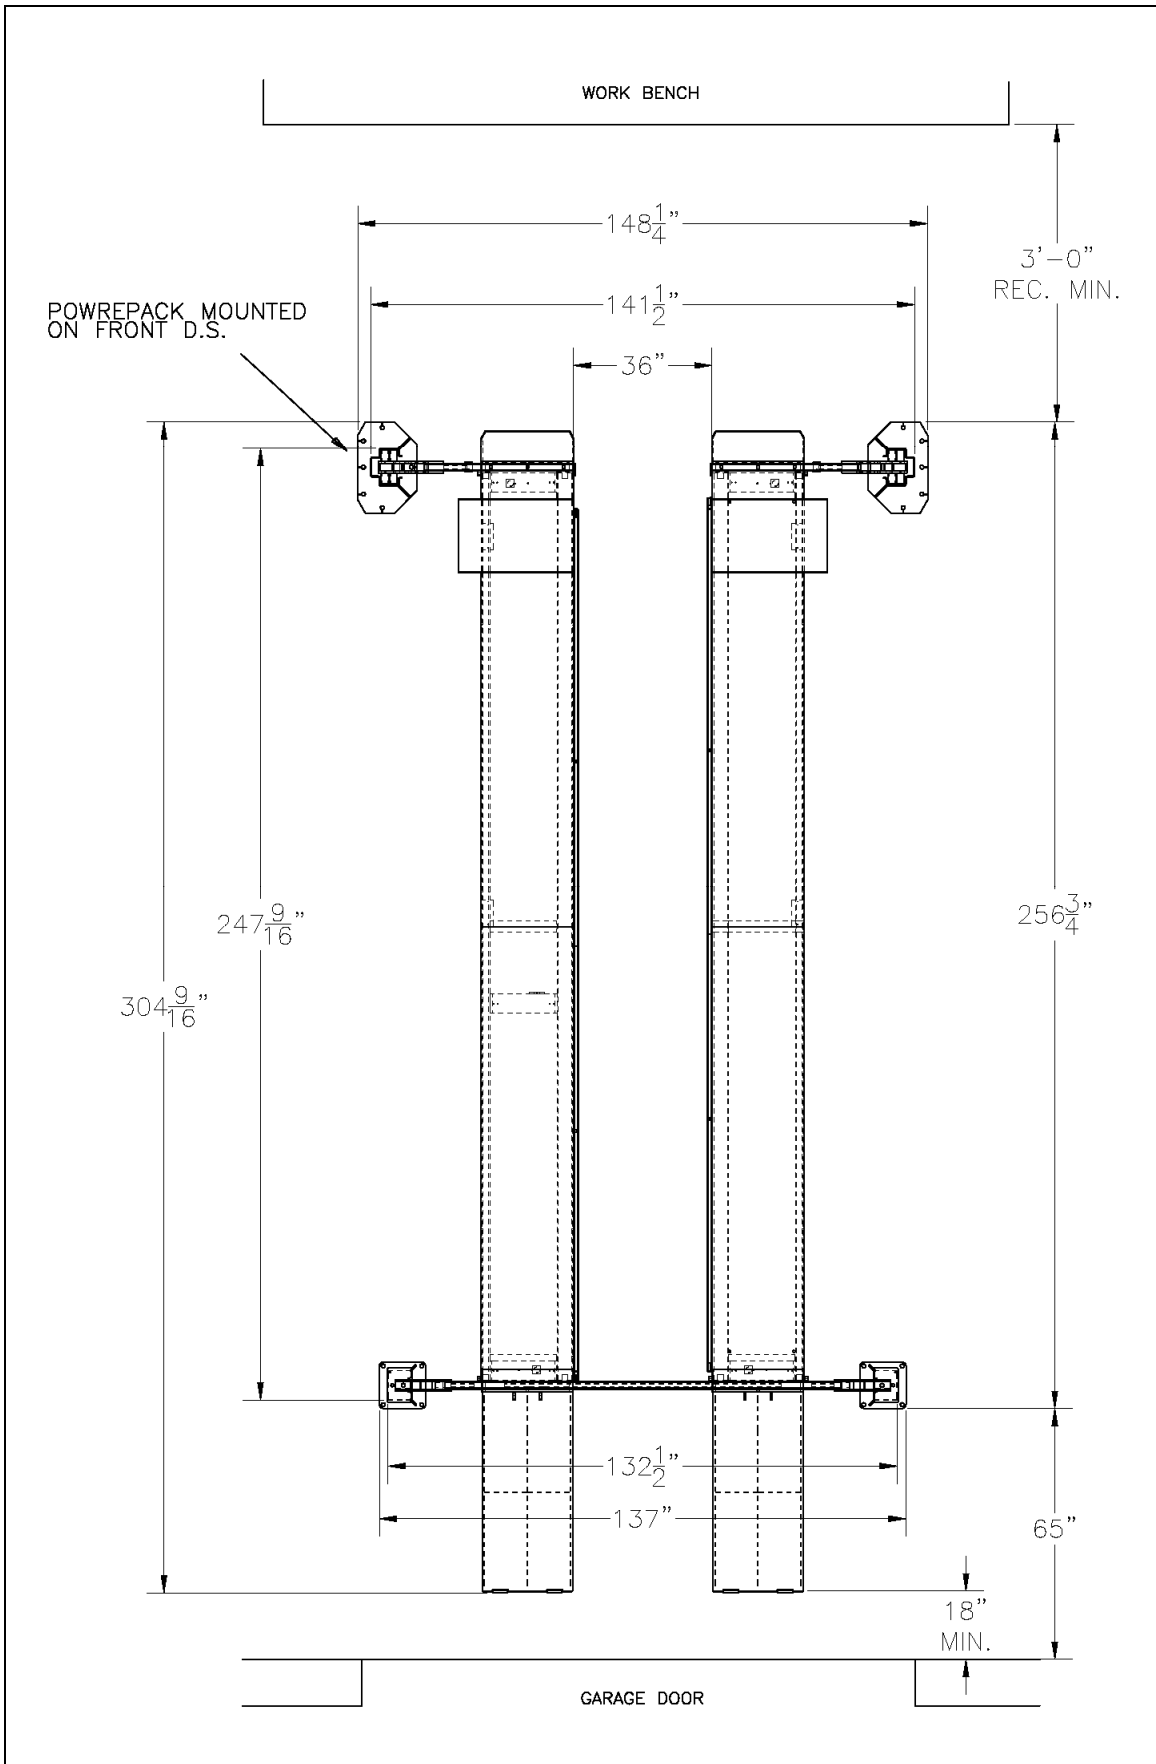
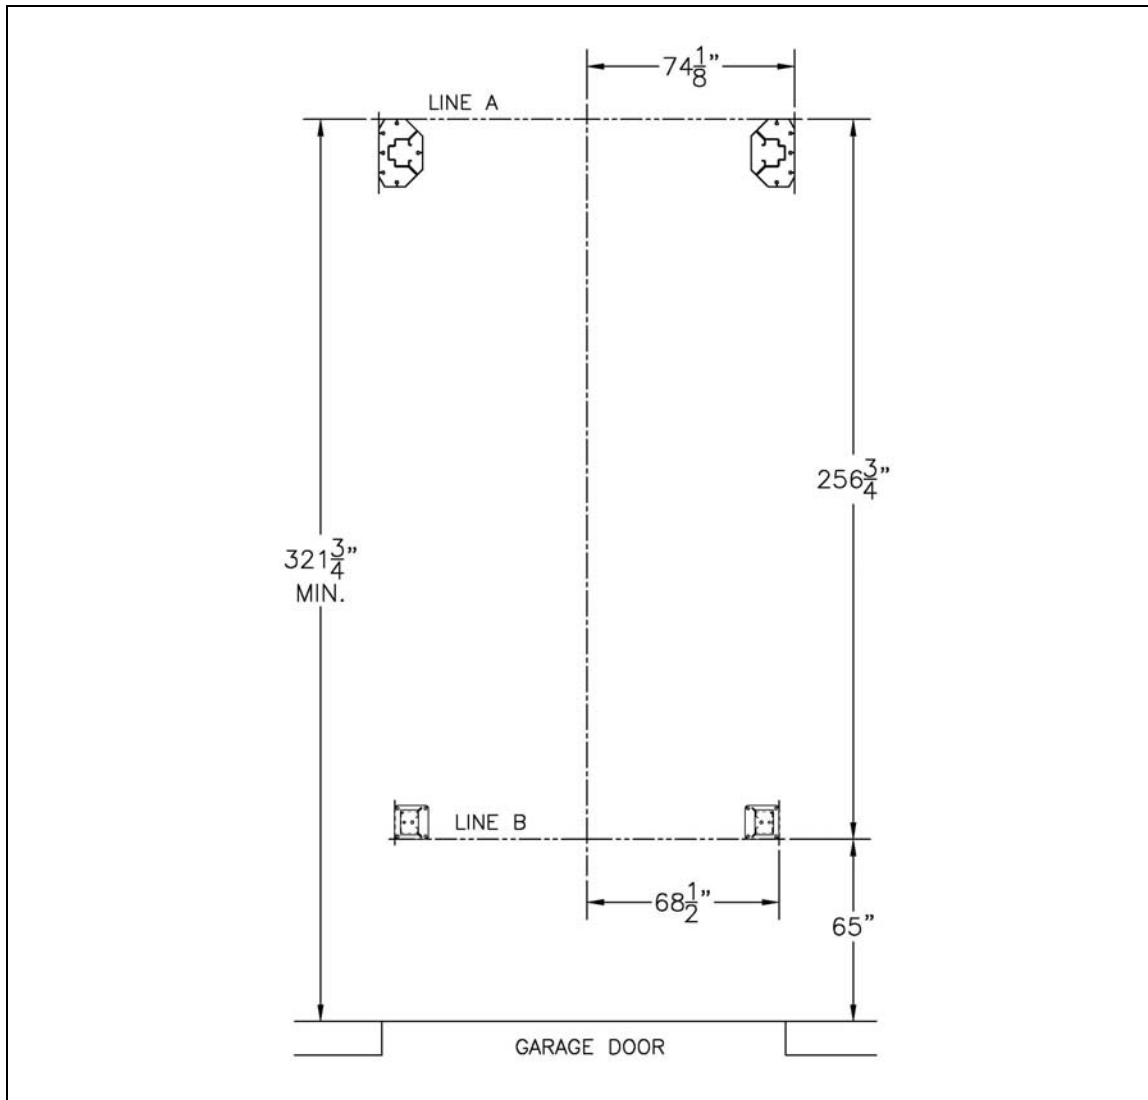

Figure 1. General lift specifications
Figure 2. Chalk line layout
- An outline matching the dimensions shown in Figure 2 will need to be marked on the floor. Refer to Figure 2 for outline dimensions. Refer to Figure 1. General lift specifications General, for overall lift dimensions.
- **Refer to Figure 2.** Make a chalk line parallel to the doorway at least 321-3/4" in from the doorway. Call this line "A". This will be the location for the front face of the front posts baseplate.
- Stand front towers up and position as per bay layout. See Figure 1 and Figure 2.
NOTE: THE 36" DIMENSION SHOWN IN FIGURE 1 IS CRITICAL. THIS WILL ALLOW JACKING BEAMS TO ROLL FREELY.
- Stand rear posts into position according to Figure 1 and Figure 2.
- Install the threaded stud end of the cables through the top of the post. Use a 7/8" flat washer, and two (2) 7/8"-14 UNF hex nuts with cable spacers as required, to compensate for uneven floors.